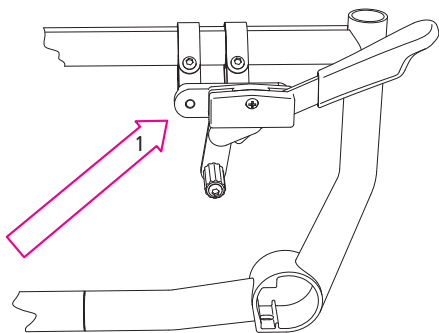

Fig. 63
4. Depending on the positioning of the rear wheel, it may also be necessary to move the cross brace support blocks in order to bring the brake into the correct position (1, Fig. 63).